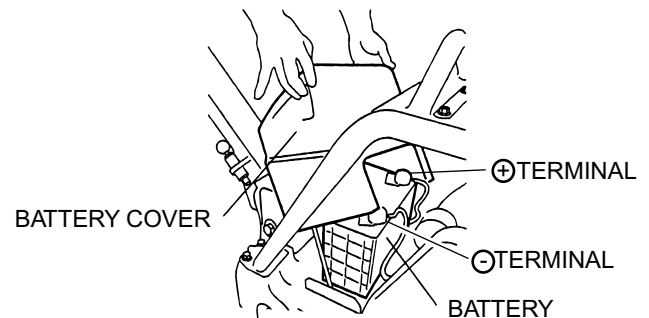

Figure 36. Removing Battery Cover
2. When removing battery cables, disconnect the ground side (normally negative) first (Figure 36).